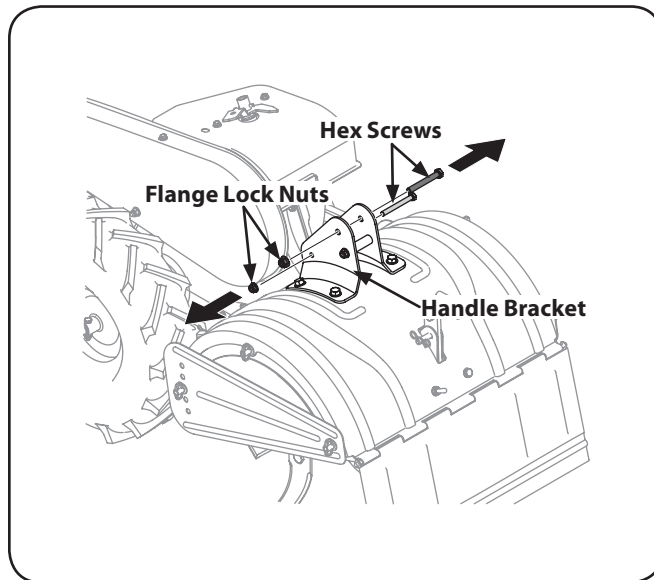

Figure 1-2
1. Remove the top two hex screws and flange lock nuts from the handle mounting brackets, but do not remove the bottom hex screw and flange lock nut. See Figure 1-2.